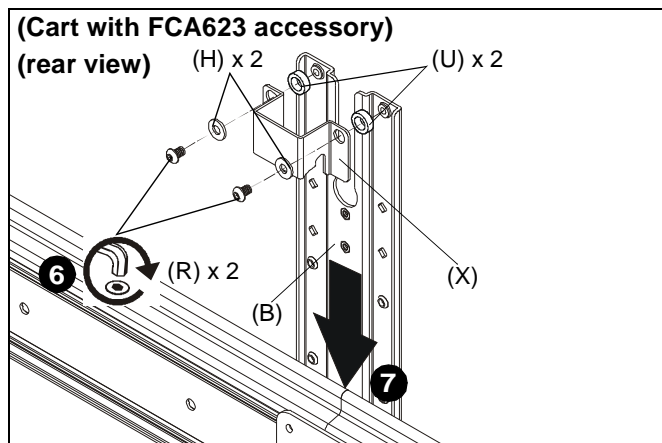

Figure 9
- Use two 1/4-20 x 7/16" button head cap screws (R), two large washers (H) and two 1/2" spacers (U) to secure shelf bracket (X) to main bracket (B). (See Figure 9)
- Slide main bracket (B) onto front of cart/ceiling mount head assembly until shelf bracket (X) rests on top of head assembly. (See Figure 9)